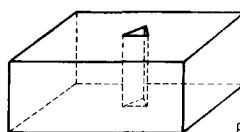

Fig. 3.60
3. Make three-view sketches of each of the articles shown in Figs 3.60, 3.61, 3.62, 3.63, 3.64 and 3.65. You may use either first- or third-angle projection but you must state the kind of projection used.